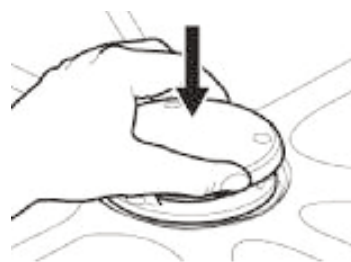

Fig. 4 Fitting Gulley IC cover
- Fit the gulley cover into the sockets and push down to secure (See Fig 4).